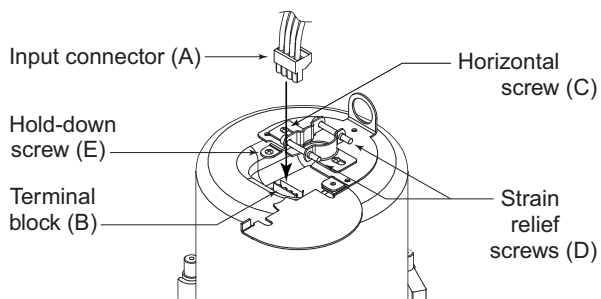

Figure13: Plug connector into socket
When all wiring has been completed to the connector, plug the input connector (A) into the socket in the speaker’s terminal cup (B). See Figure 13. Tighten all screws to eliminate vibration.
Fully loosen the horizontal screw (C) shown in Figure 13, then the strain relief screws (D). Run the wires through the opening in the fitting and plug the input connector (A) into the speaker's terminal block (B). Then tighten the strain relief fitting as follows: